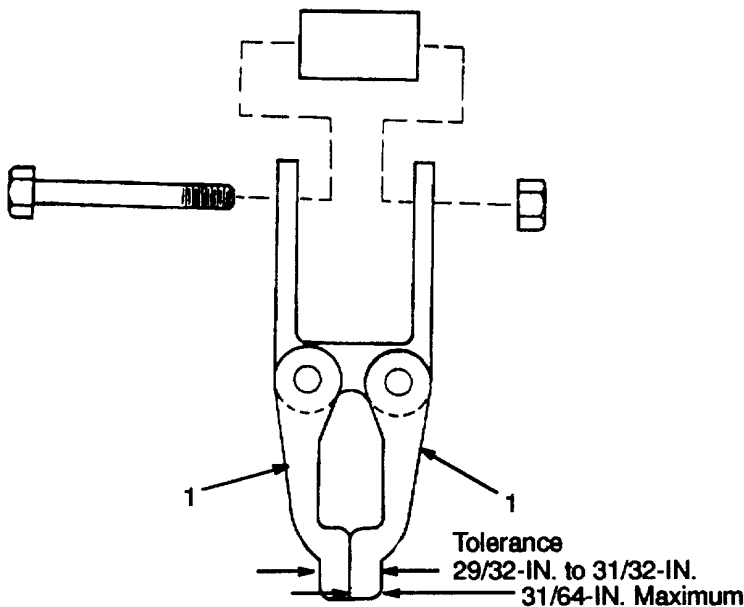

Figure 2-14. Connector, Parachute Repair.
1. INSPECT THE PARACHUTE CONNECTOR (FIGURE 2-14) IN ACCORDANCE WITH PARAGRAPH 2.10, USING THE PROCEDURES IN TABLE 2-1.
- a. Ensure that the arms (1) engage into the retainer damp. If they do not, the thickness of the tips is too much.